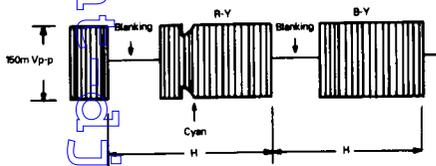

Figure 8
- Adjust L503 for the flat level of amplitude in each color bar waveform on the scope. (See figure 8)